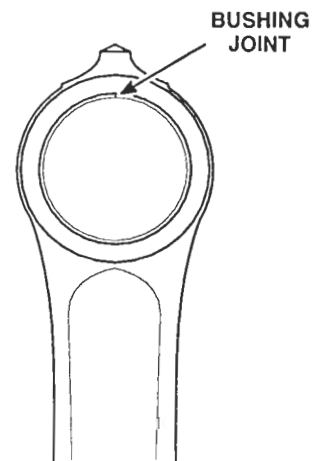

Figure 8. Location of Bushing Joint
2. Start a new bushing straight into the bore of the connecting rod, with the bushing joint at the top of the rod (Figure 8.)